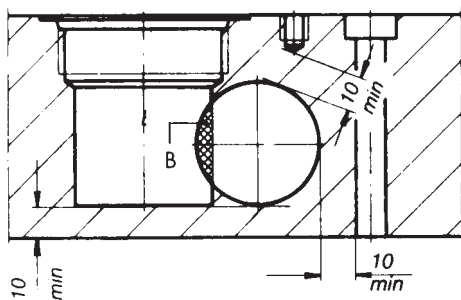

Fig. 12.2
- The area of intersection "B" (figure 12.2) should be at least 5% of the cross section of the largest channel, with a minimum area of 1.5 cm2. Channel diameter must be a minimum of 6 mm.